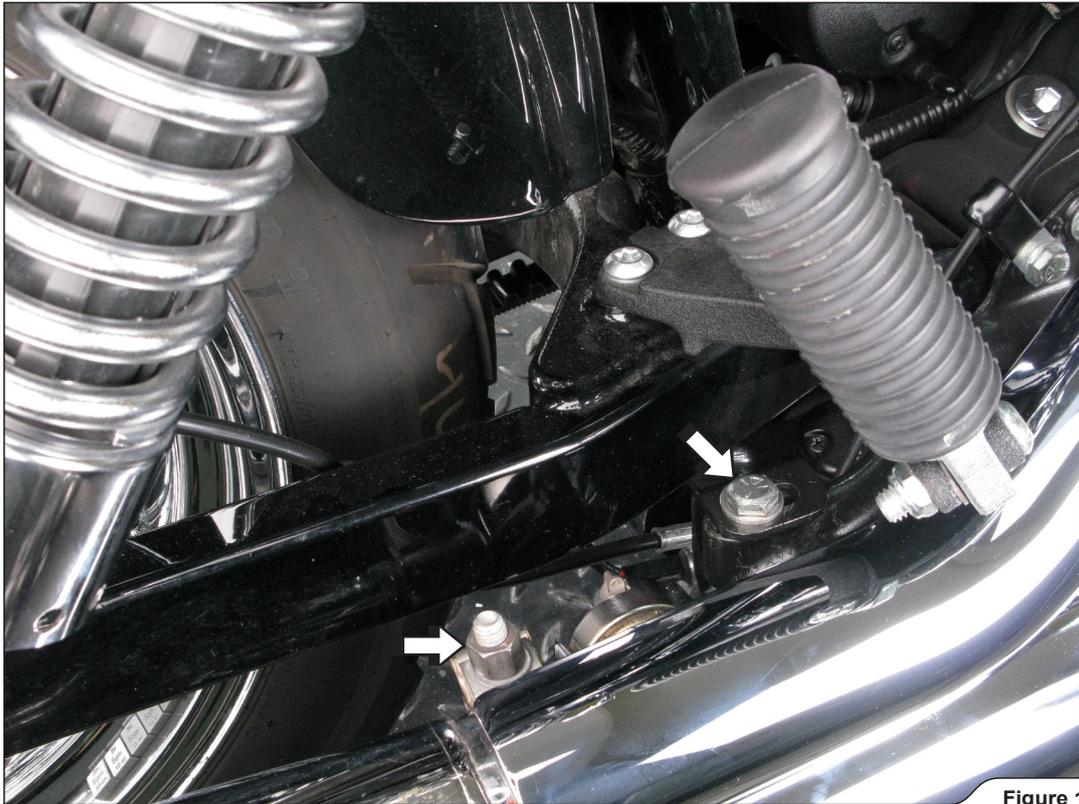

Figure 1
2. Unscrew the marked mufflers' bracket bolt and loosen the muffler-header connection clamps (Figure 1, 2).